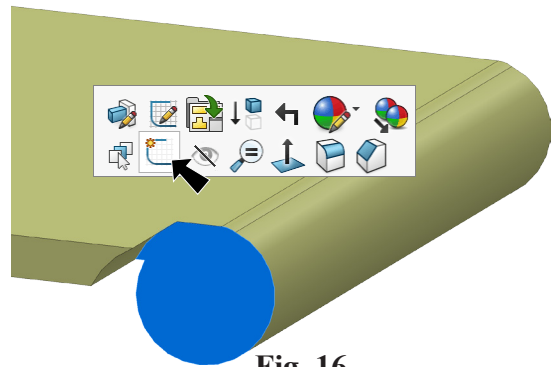
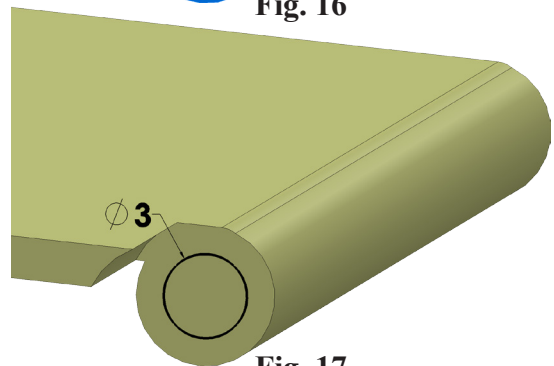

Fig. 16
Fig. 17
Step 1. Click the **side face** and click **Sketch**  on the context toolbar, **Fig. 16**.
Step 2. Click **Circle**  (S) on the Sketch toolbar.
Step 3. Sketch circle at centerpoint of cut, **Fig. 17**. To wake up centerpoint, hover cursor over circular edge of cut.
Step 4. Click **Smart Dimension**  (S) on the Sketch toolbar.
Step 5. Dimension **diameter 3**, **Fig. 17**.